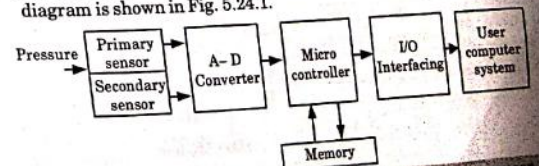

Fig. 5.24.1. Data acquisition system using smart pressure sensor.
3. For data acquisition using the smart pressure sensor, the functional diagram is shown in Fig. 5.24.1.